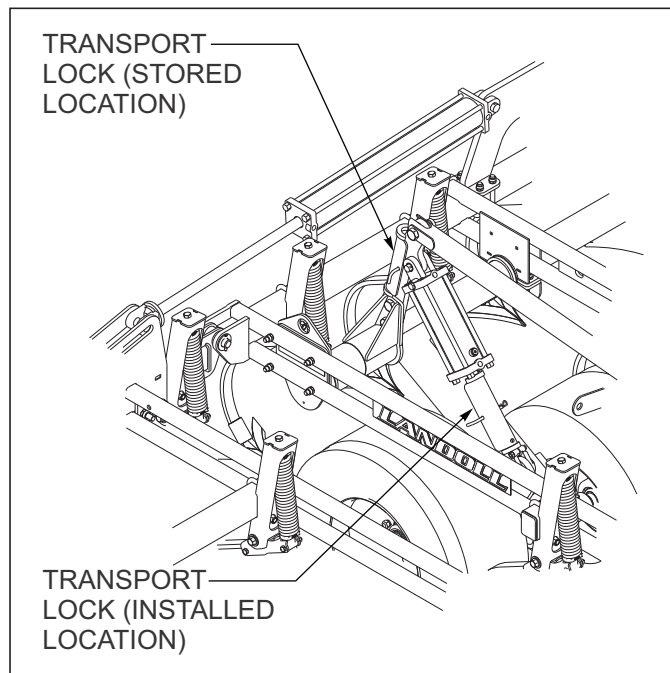

Figure 4-2: Transport Lock Locations
2. The hydraulic system is not filled with oil and should be purged of air before transporting and field operations. Carefully hitch the Field Cultivator to the tractor and connect the hydraulic lift hoses. Check to make sure the tractor hydraulic reservoir is full of the manufacturer's recommended oil. Slowly raise the machine, and continue to hold the hydraulic lever until all lift cylinders are fully extended. With all cylinders fully extended remove the transport locks See Figure 4-2 Lower and raise the unit to verify that all cylinders are working simultaneously throughout the stroke. If the cylinders are not working evenly or together, fully extend the lift cylinders and continue to hold the lever to purge any remaining air. Do not loosen any hoses or fittings. Recheck tractor reservoir to make sure it is within operating limits.